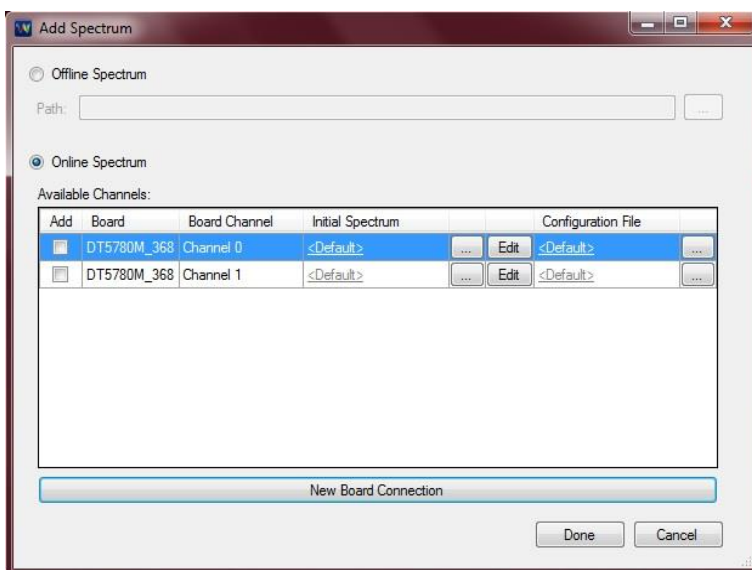

Fig. 4.6: MC2Analyzer Menu Bar - “File/Add Spectrum/New Board Connection/Connect/Close” Dialog Box
The following dialog box will then appear (see Fig. 4.6), allowing the user to select and mark the digitizer channels to be enabled for the acquisition and display of new live spectra:
- **Rebin Dialog:** Clicking on the “Rebin Dialog” allows the user to transform a High-Resolution Spectrum (i.e. a 16K channels spectrum) into a lower resolution spectrum (i.e. a 2 K channel spectrum) by clustering the values of the counts in the adjacent bins according to the rebin factor (i.e. the counts values of 8 adjacent bins of a 16K spectrum are summed into the corresponding single bin in a 2 K channels spectrum). Accepted vales are: 16K, 8K, 4K, 2K, 1K. The same menu is available from the **“Edit”** function of **Fig. 4.6**, at the pull-down menu **“ADC channels”**.